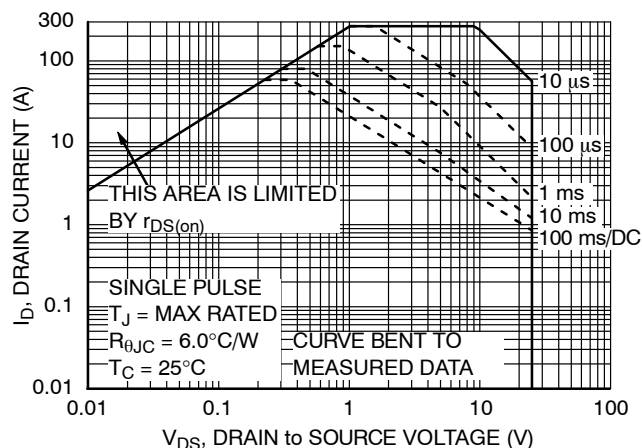
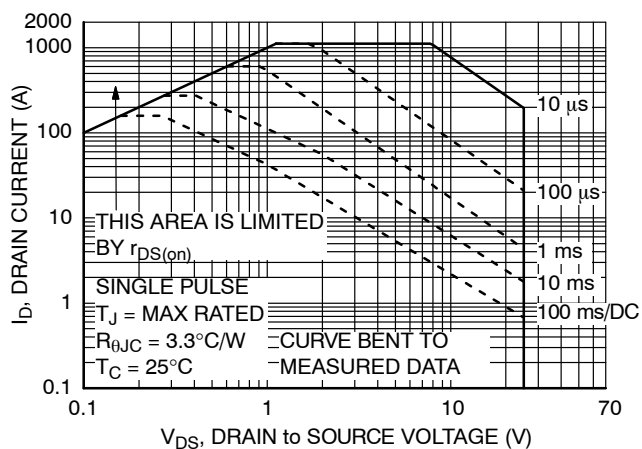

Figure 11. Forward Bias Safe Operating Area
Figure 24. Forward Bias Safe Operating Area
3. Pulsed I_D please refer to Figure 11 and Figure 24 SOA graph for more details.